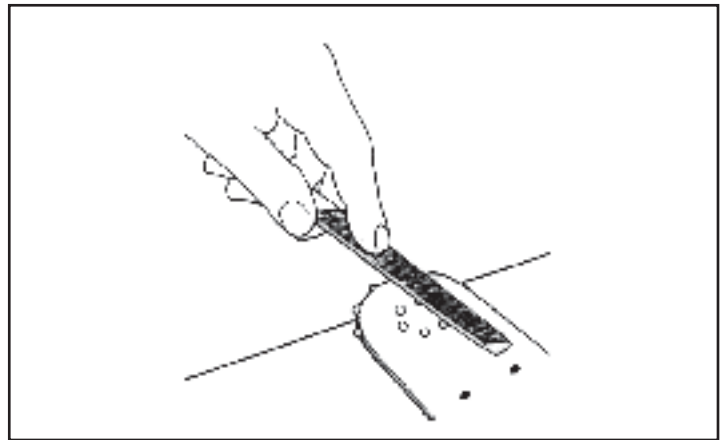

Figure 29. Filing Rivets
7. Using a flat file, shave the rivet heads to a uniform height that is as close to the bar body as possible. See Figure 29.